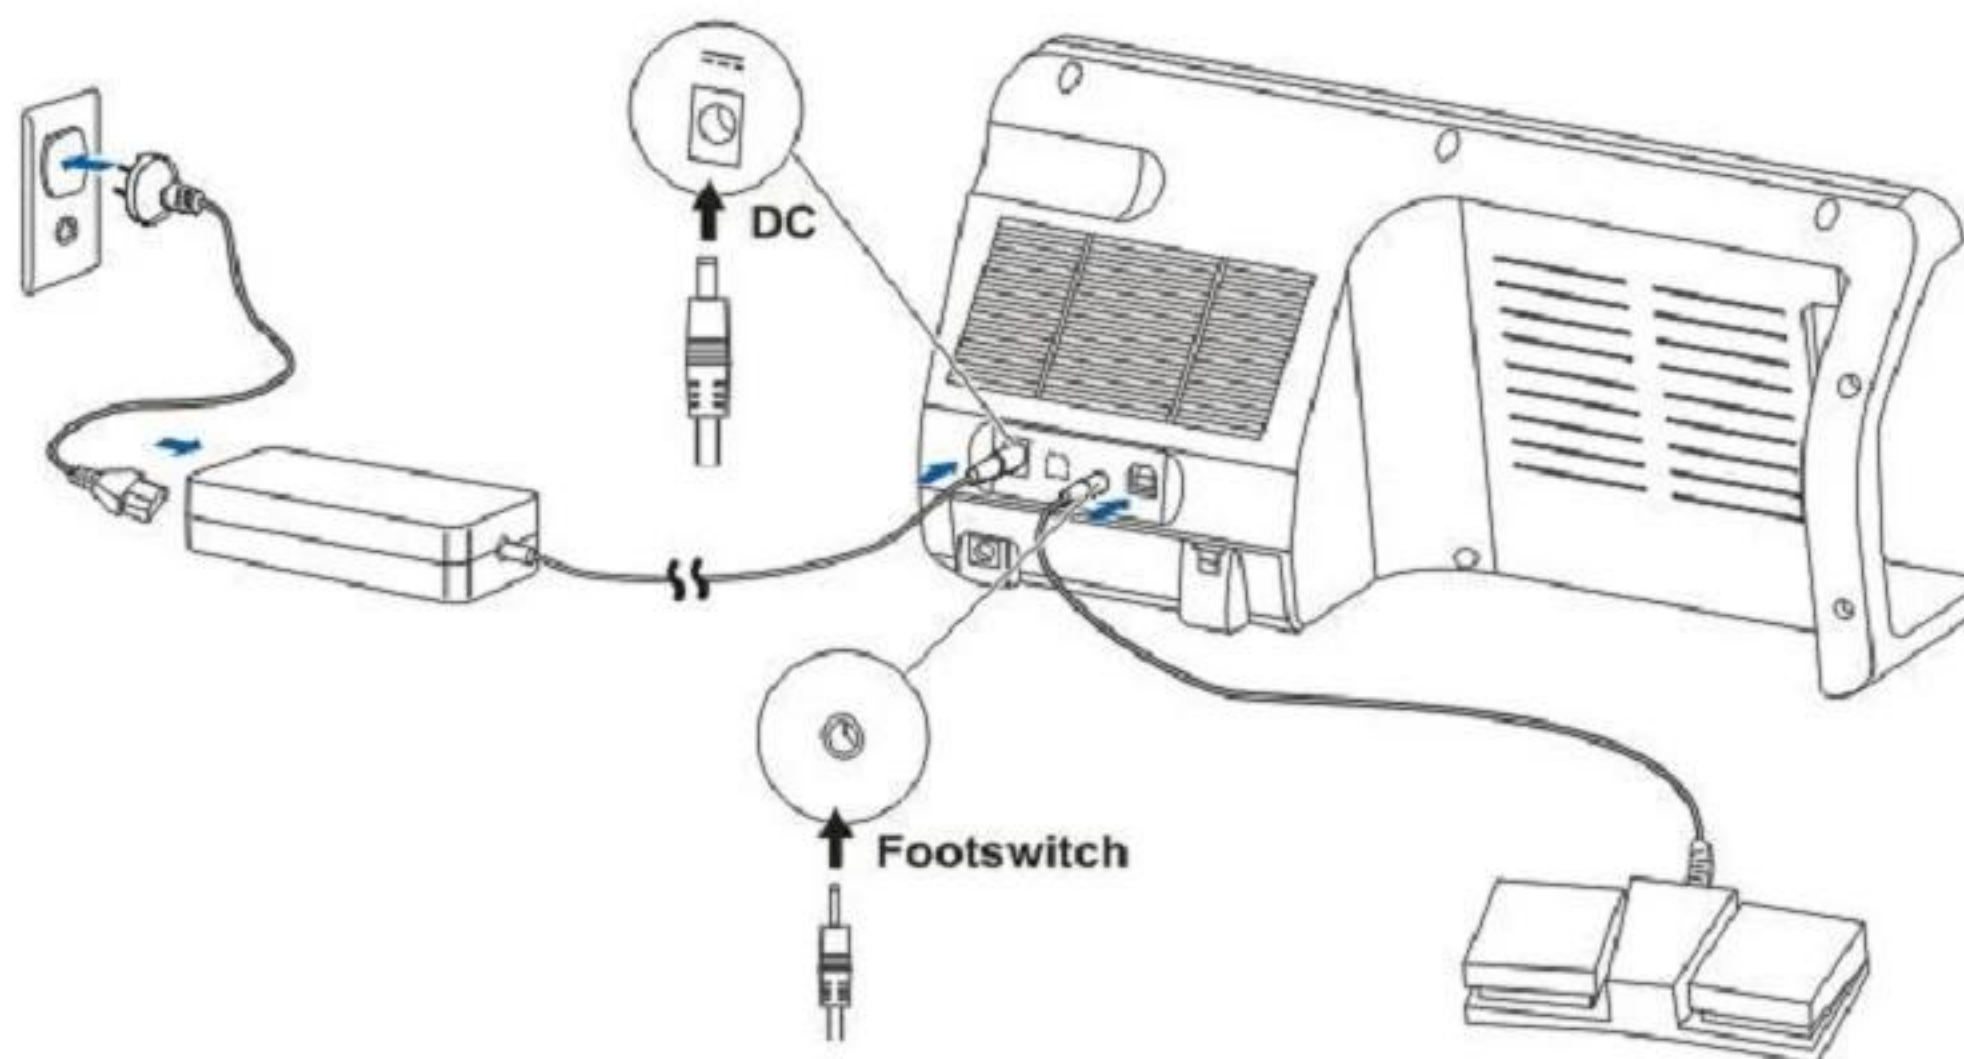

Figure 3.5 Connection of External Interface
- 2) Connect one end of the Power Cable with the Power Adaptor, and the other end to the wall outlet, as shown in Figure 3.5.
Plug the Foot Switch plug into the Foot Switch Socket on the rear panel of the instrument, as show in Figure 3.5.